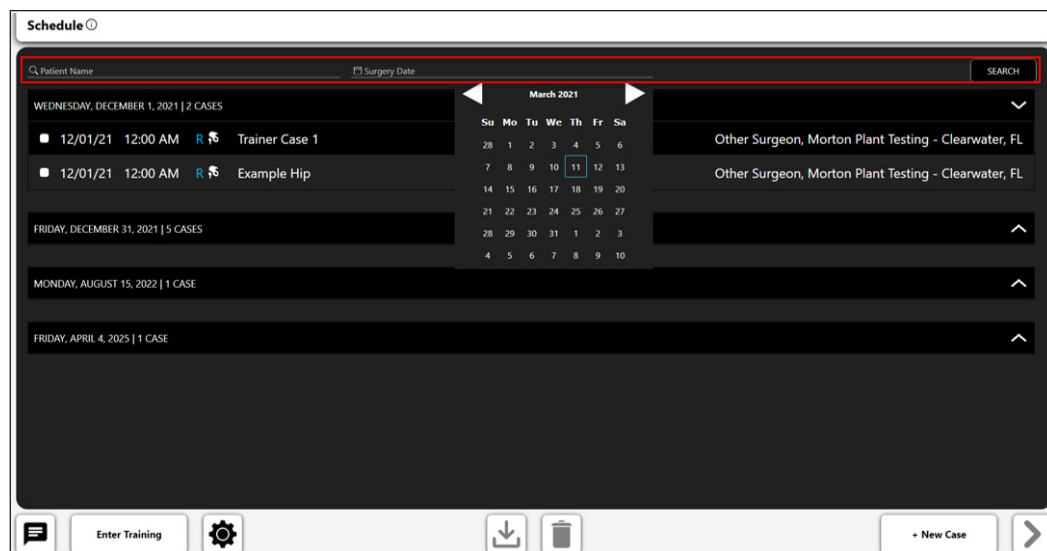

Figure 11: Schedule Screen - Search Detail
- Search button used for patient name or to search by date (Figure 11).